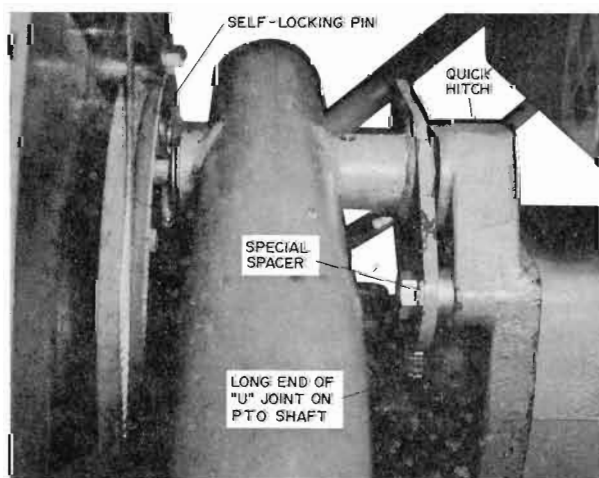

fig 5
2. Fasten Quick Hitch Kit to advance casting of the tractor, using bushing and bolt, items 98 and 99, as shown fig 5.
7. Secure with washer and self-locking pin, item 93. (Washer supplied with Quick Hitch Kit, self-locking pin supplied with snowblower).